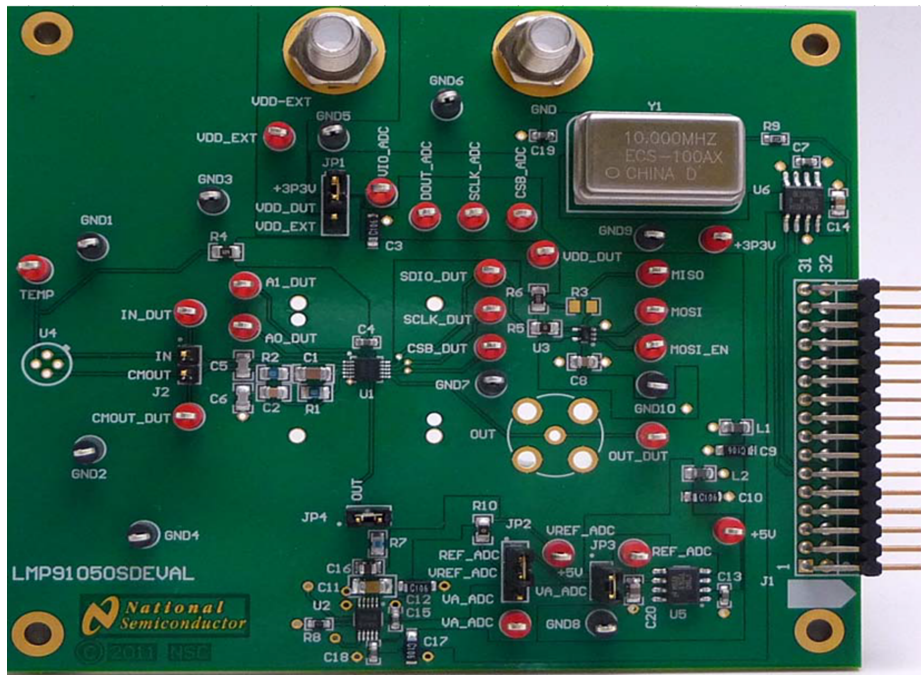

Figure 3. LMP91050SDEVAL Jumper Settings
11. The LMP91050 Evaluation Board jumper connections can be seen in Figure 3 and Table 5. Jumpers not shown can be left unpopulated.